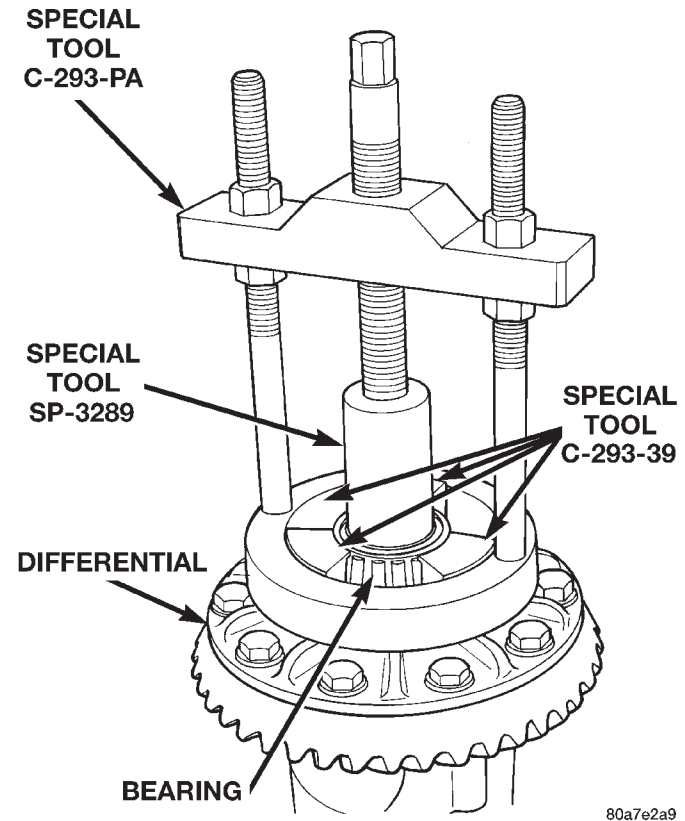

Fig. 30 Differential Bearing Removal
- (1) Remove differential from axle housing.
- (2) Remove the bearings from the differential case with Puller/Press C-293-PA, C-293-39 Blocks, and Plug SP-3289 (Fig. 30).